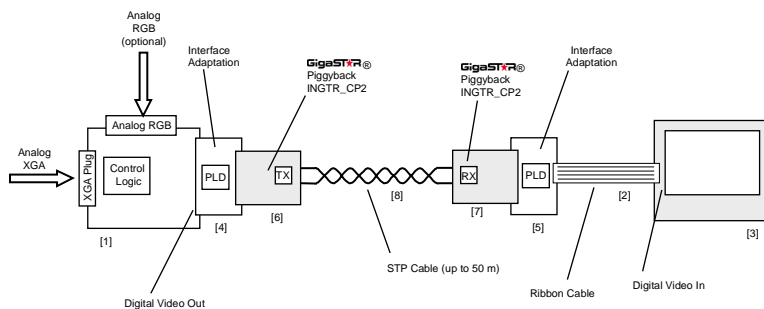

Figure 4: GigaSTaR Display Link with STP Copper Cable
| Figure 4: GigaSTaR Display Link with STP Copper Cable | 5 |
A typical implementation for the GigaSTaR link in combination with an analog / digital converter is shown in Figures 4 and 5. By adopting the link to the digital output of the converter board, the signal can be transmitted over distances of 50 m with shielded twisted pairs (STP) of copper cable (4) or distances of up to 500 m with multimode fiber (5).
The application as described in Figure 4) is realized as “**GigaSTaR Display Kit**” (device title: ING_DK) also shown on the cover page of this application note.